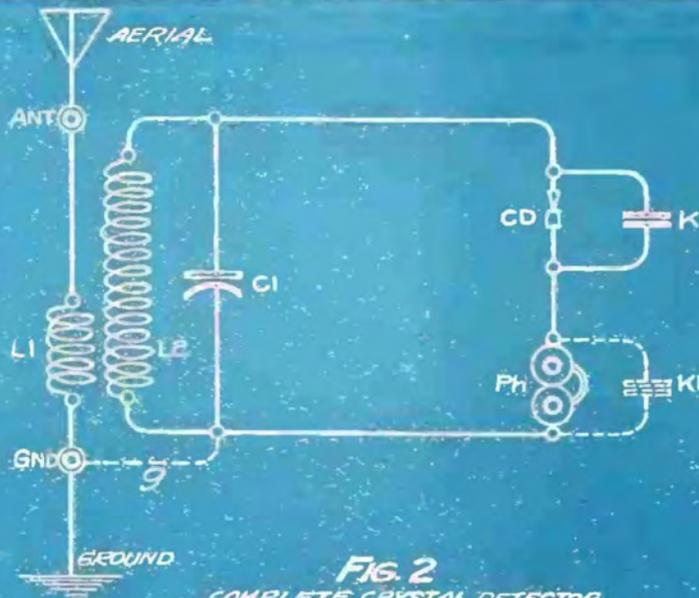
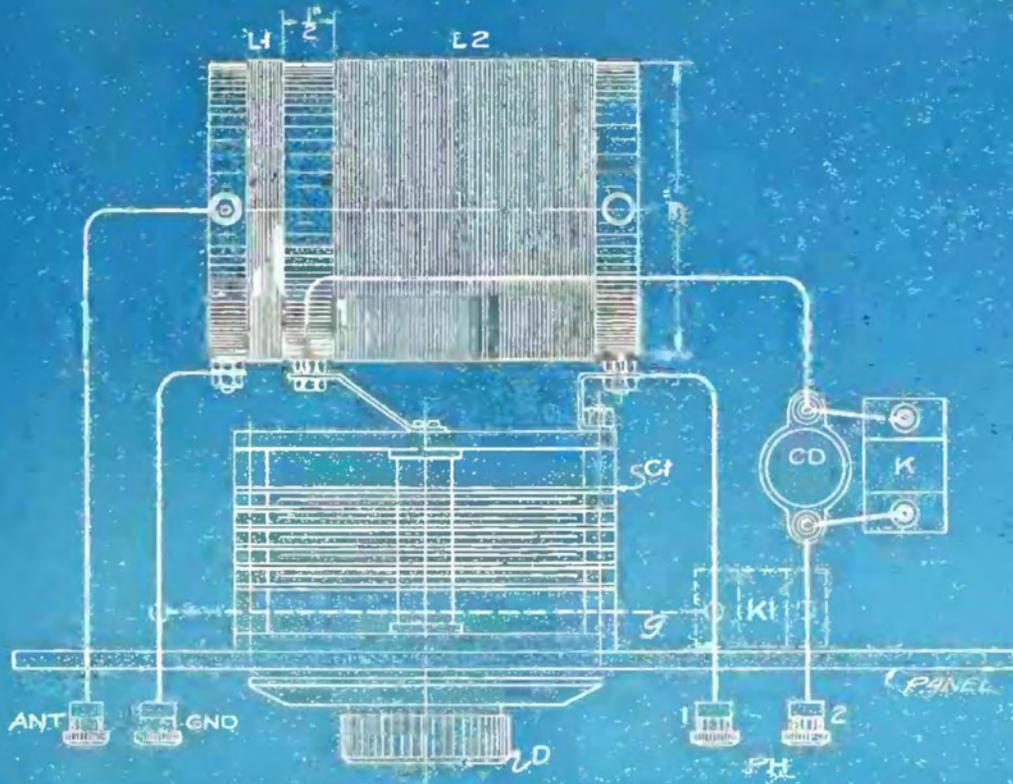

FIG. 2
FIG 3
In Fig. 2 we have the schematic diagram of the complete circuit. The coupler consists of the primary coil (L1) connected at one end to the aerial and to the ground at the other end. The radio impulses from (L1) are communicated to the secondary coil (L2) which is identical with the coil (L) in Diagram (B). A variable condenser (C1) is connected across the secondary coil so that it can be tuned to wavelength. The fixed condenser (K) connected across the crystal detector (CD) serves the purpose already described. The phones (Ph) are in series with the crystal detector.
A complete drawing of the circuit with all of the parts in place is shown by Fig. 3, the letters in this drawing corresponding with similar letters in the schematic diagram of Fig. 2. A detail view of the coupler coil is shown which is connected to the variable tuning condenser (C1), the latter being connected directly across the secondary coil (L2) of the tuning in-